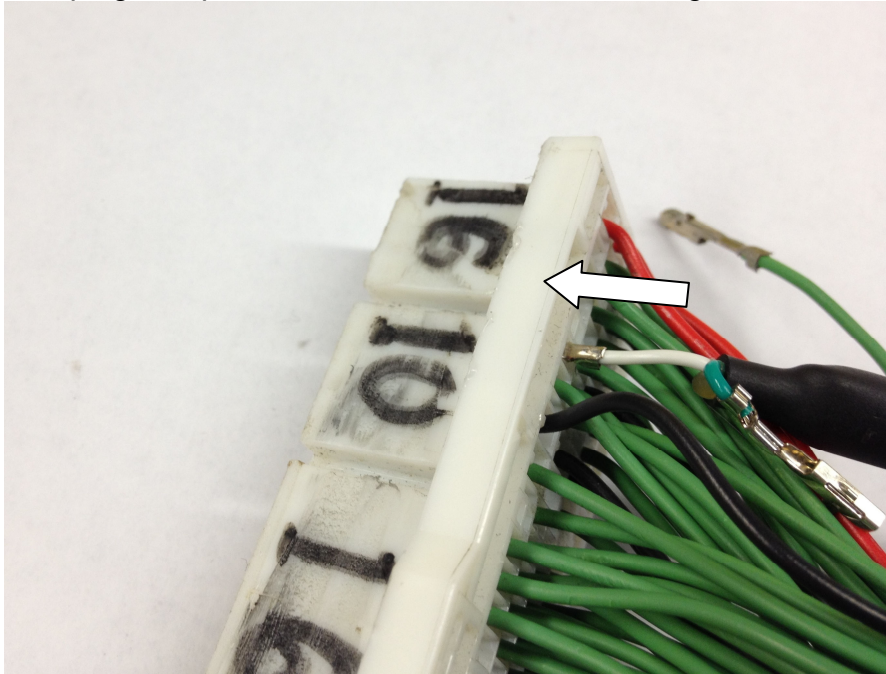

Figure 8: Pushing pin into ECU plug
5. To install the harness into the ECU plug, align the CANL and CANH pins into the receptacle of the plug and push in until it clicks as shown in figure 8: